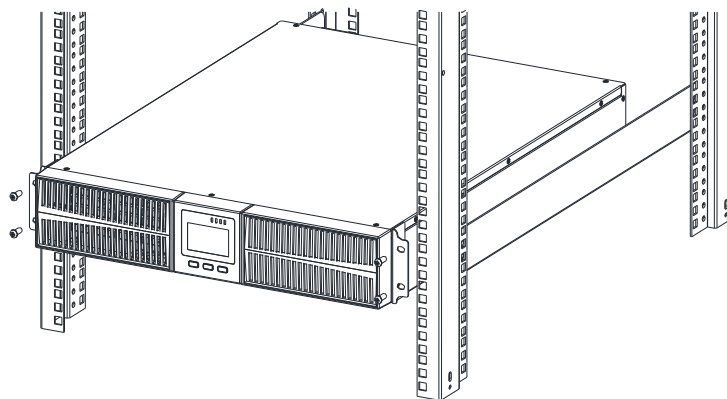

Fig.2-7
2. Place the UPS onto the guide rail in the rack, and push it completely into the rack along the guide rail (it is prohibited to move the UPS through the brackets). And fix the UPS onto the rack using the screws through installation hole on the bracket, as shown in Fig.2-7.